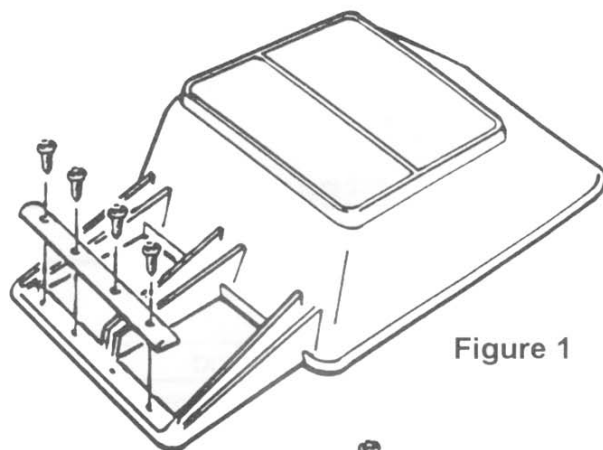

Figure 1
2. Place handle cap on bottom of handle and secure with four (4) #10 -- 16 x 3/4" screws. See Figure 1.